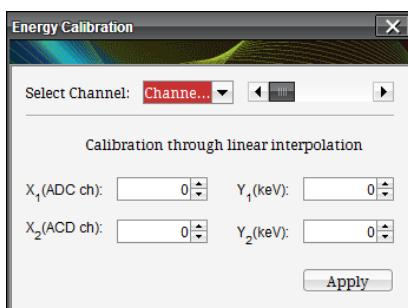

Fig. 7.12: Energy Calibration window
- “**X-Axis Unit**” menu: for Energy plot mode only, selects the unit of measurement of the Energy x-axis in the histogram between “*ADC Counts*” and “*KeV*”. In order to define a *KeV* scale, the “*Calibrate*” button opens the Energy Calibration window (**Fig. 7.12**) where it is possible to calibrate the spectrum by a dedicated menu: a customized Calibration line can be built here. Different calibration lines are available for the different channels;